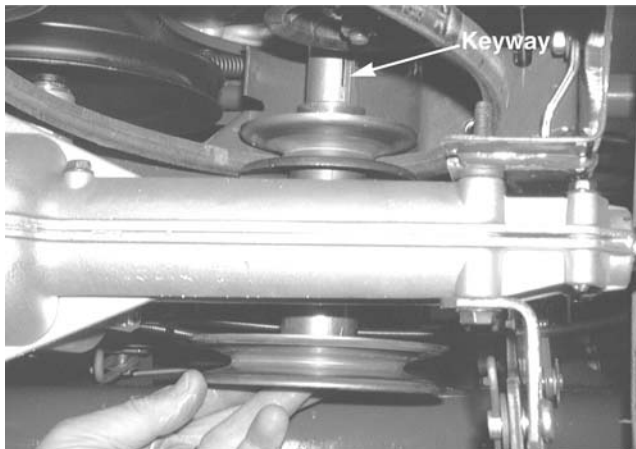

Figure 8-46.
5. Lower the engine pulley from the rider. See Figure 8-46.